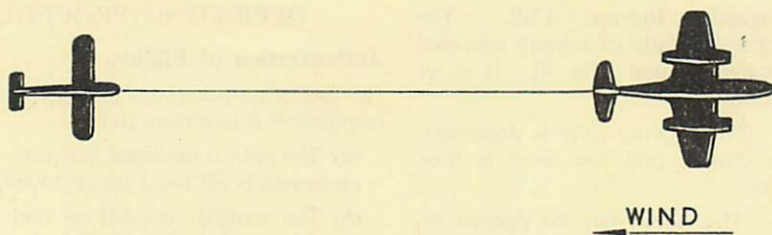

Fig. 5. Aircraft, Cable, and Target Layout for Drag Take-Off
22. **Drag Take-Off.** The cable and target are laid out along the runway behind the aircraft (Fig. 5). This method is used on the following occasions :-